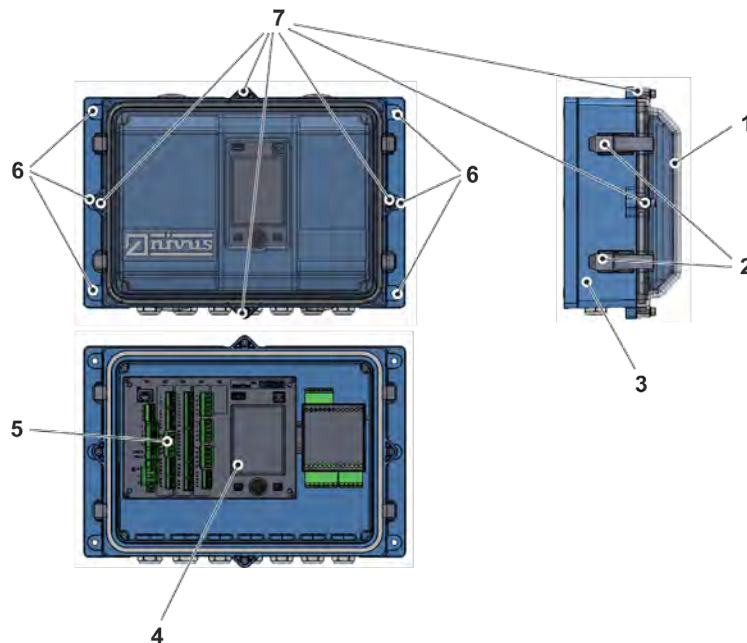

Fig. 21-4 Fastening the Field Enclosure
1. Fasten the field enclosure (Fig. 21-4 Pos. 3) with the six pre-selected fastening screws through the through holes with diameter 6.5 mm (Fig. 21-4 Pos. 6) to the two side lugs.
2. If present, remove the transport protection foil from the transparent enclosure cover (Fig. 21-4 Pos. 1).
1. To remove the transparent enclosure lid (Fig. 21-4 Pos. 1) from
Open the four clamp locks on each side (Fig. 21-4 Pos. 2) and remove the enclosure cover.
Remove the four cylinder head screws M4x25 (Fig. 21-4 Pos. 7) with the corresponding washers; open the four clamp locks (Fig. 21-4 Pos. 2) and remove the enclosure cover.
2. To remove the inner blue cover, unscrew the four round-head screws M3.5x25 in the corners and remove the cover. Now the transmitter, the display (Fig. 21-4 Pos. 4), the connection terminals (Fig. 21-4 Pos. 5) and the iXT are freely accessible.